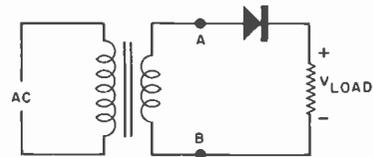

Fig. 5. A simple half-wave rectifier using a semiconductor diode.
For example, a simple half-wave rectifier (Fig. 5) uses a diode to convert ac to dc. On the positive half cycles of  $V_{AB}$  the diode conducts and delivers power to the load. (Note that "conventional current," opposite to the flow of electrons, travels in the direction indicated by the diode arrow.) When the polarity of  $V_{AB}$  reverses, the diode is reverse biased and acts as an open circuit. Thus no current can flow through the load resistor on negative half cycles of  $V_{AB}$ . If we view the waveform of the voltage across the load on an oscilloscope, we will see a series of half sine waves. This is pulsating dc which can be smoothed out by connecting a capacitor in parallel
**Nonideal Effects.** Although we considered the diode as a closed switch when forward-biased and an open switch when reverse-biased, this idealization neglects some aspects of diode behavior. First, when the diode conducts, a forward voltage drop exists across it. This voltage drop is equal in magnitude to the barrier potential ( $V_B$ ) of the junction. For a germanium diode, it is about 0.2 volt; for a silicon diode, 0.7 volt; for a gallium-arsenide diode, 1.7 volts. The diode will not conduct until the applied voltage exceeds this value. For example, the half-wave rectifier of Fig. 5 will deliver a peak voltage to the load of  $V_P - V_B$  if the forward voltage drop is considered. When  $V_P$  is high—say, 50 volts—the small  $V_B$  can be ignored. But in small-signal circuits, such as the crys-